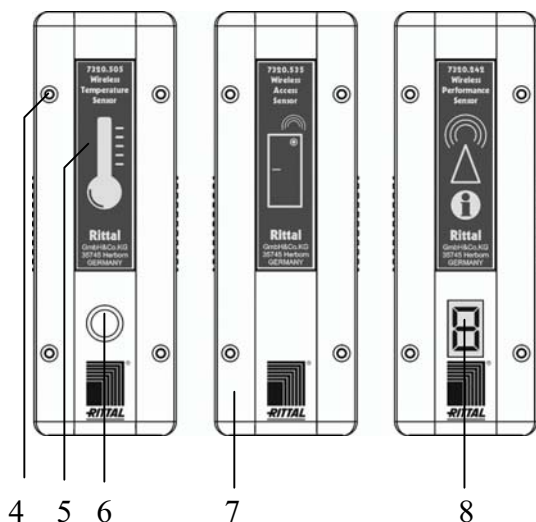

Fig. 2 Wireless sensor from above
A measuring system must be available for commissioning the wireless sensor network. After the commissioning, the measuring system can also be used for additional installations, for example, for extensions or changes. The wireless measuring system is registered once and then reused afterwards with the Wireless I/O-Unit or it is registered with a different wireless sensor network. The latter requires that the wireless measuring system sensor is switched off (see Section 3.3) and re-registered with a new Wireless I/O-Unit. The measuring system is trained with the Wireless I/O-Unit like a normal sensor. The result can be seen on the sensor display, see Figure 2 (8).